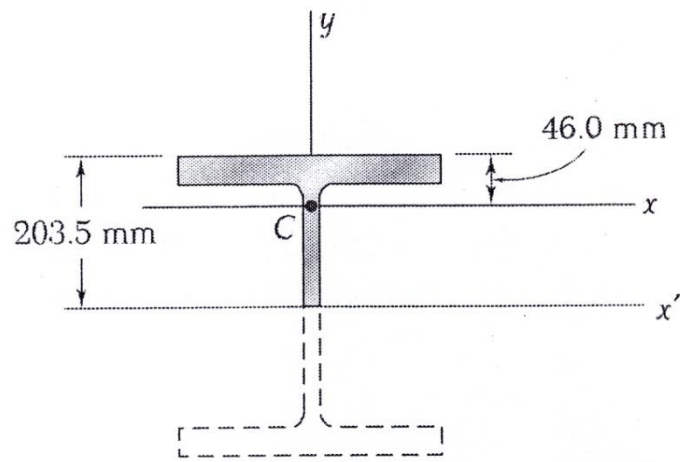

Figure 8
5. (a) A column of 8 m effective length is made from half of a W410x 60 rolled-steel shape (shaded portion) as shown in Figure 8. Knowing that the centroid, C, of the section is located as shown in Figure 8, determine the factor of safety if the allowable centric load is 90 kN. Use  $E = 200 \text{ GPa}$ . Given,